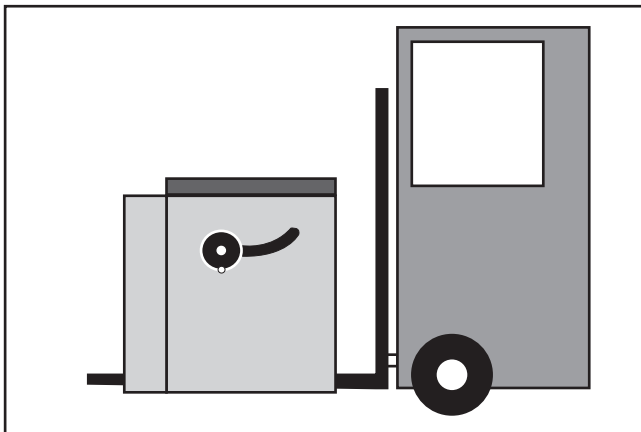

Figure 12. Example of lifting the table saw assembly.
2. Position the forklift forks completely under the cabinet, as illustrated in **Figure 12**.